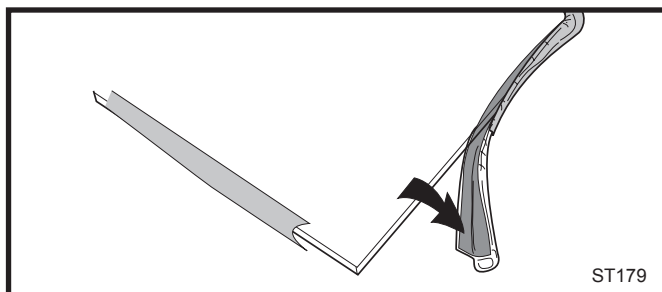

Fig. 37 Wrap the gasket material around the outside edge of the glass.
3. Starting on a long edge, remove about 6" of the protective paper strip and apply the flat adhesive face of the gasket around the outside-facing edge of the panel. Continue around the panel, applying a bout 6" at a time and being careful to not stretch the material. Do not overlap the gasket ends. (Fig. 37)